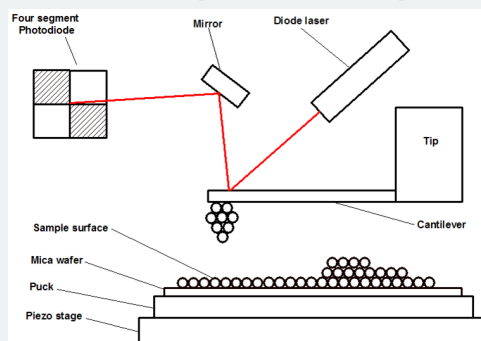

Figure 9.2.10 Schematic of the laser set-up.
11. To ensure that the laser is centered on the photodiode, zero the detector signals using the mirror adjustment knobs located on the top and back of the head. The knob on the top of the head adjusts TMAFM mode, and the knob at the rear of the head adjusts AFM/LFM mode. The range is -9.9 V to 9.9 V in both modes. The number will change slowly at the extremes of the range and quickly around 0 V. Ideally, the zeroed signal should be between ± 0.1 V. Do this first in TMAFM mode, then switch to AFM/LFM mode and try to zero the detector. Flip back and forth between the two modes a few times (adjusting each time) until the value in both modes is as close to 0 V as possible. It will fluctuate during the experiment. If there is steady drift, you can adjust it during the experiment. If the number won't settle down, the laser could be at a bad position on the cantilever. Move the laser spot and repeat (Figure 9.2.10). Always end this step in TMAFM mode.